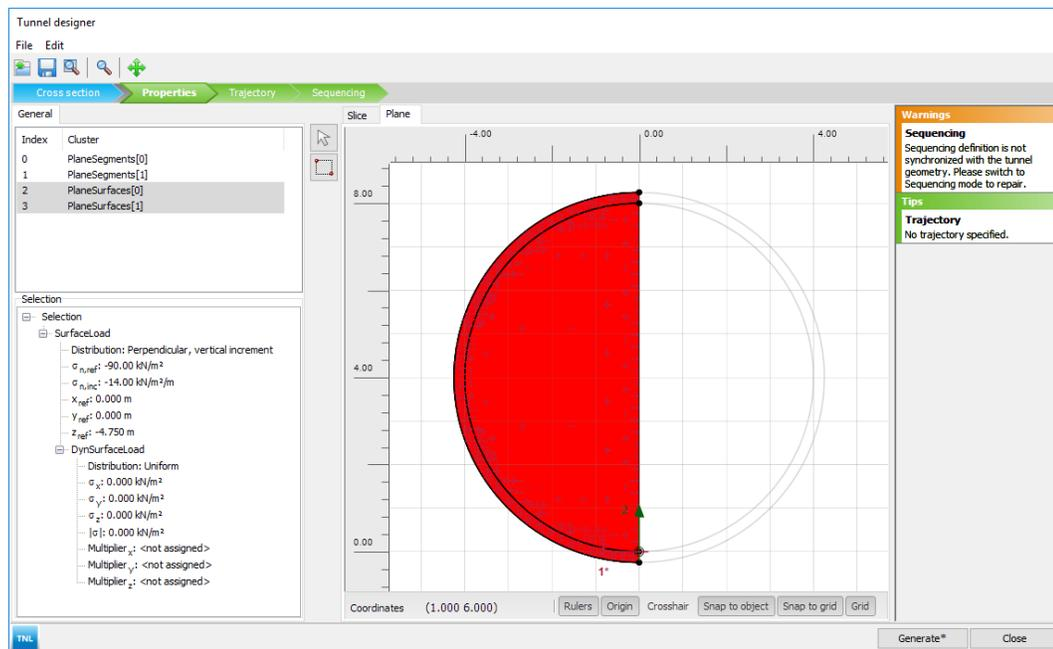

Figure 75: Plane tabsheet in the **Tunnel designer**
4. Set the  $\sigma_{n,ref}$  to  $-90$  and  $\sigma_{n,inc}$  to  $-14$  and define  $(0 \ 0 \ -4.75)$  as the reference point for the load by assigning the values to  $x_{ref}$ ,  $y_{ref}$  and  $z_{ref}$  (Figure 75: Plane tabsheet in the Tunnel designer (on page 99))